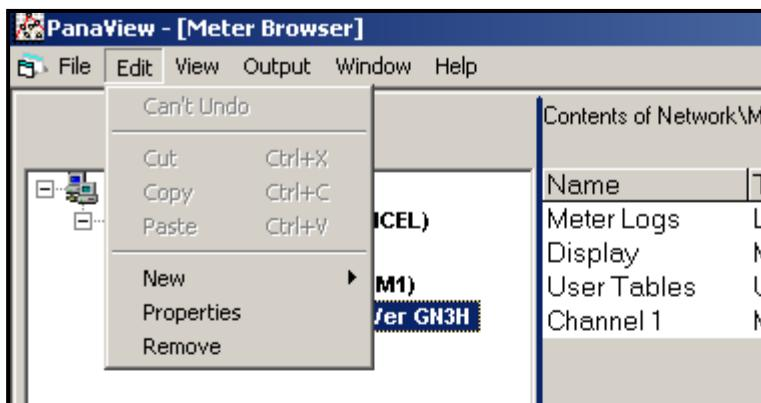

Figure 25: The *Properties* Option in the *Edit* Menu
2. Open the “Edit” menu and select the “Properties” option, as shown in Figure 25.